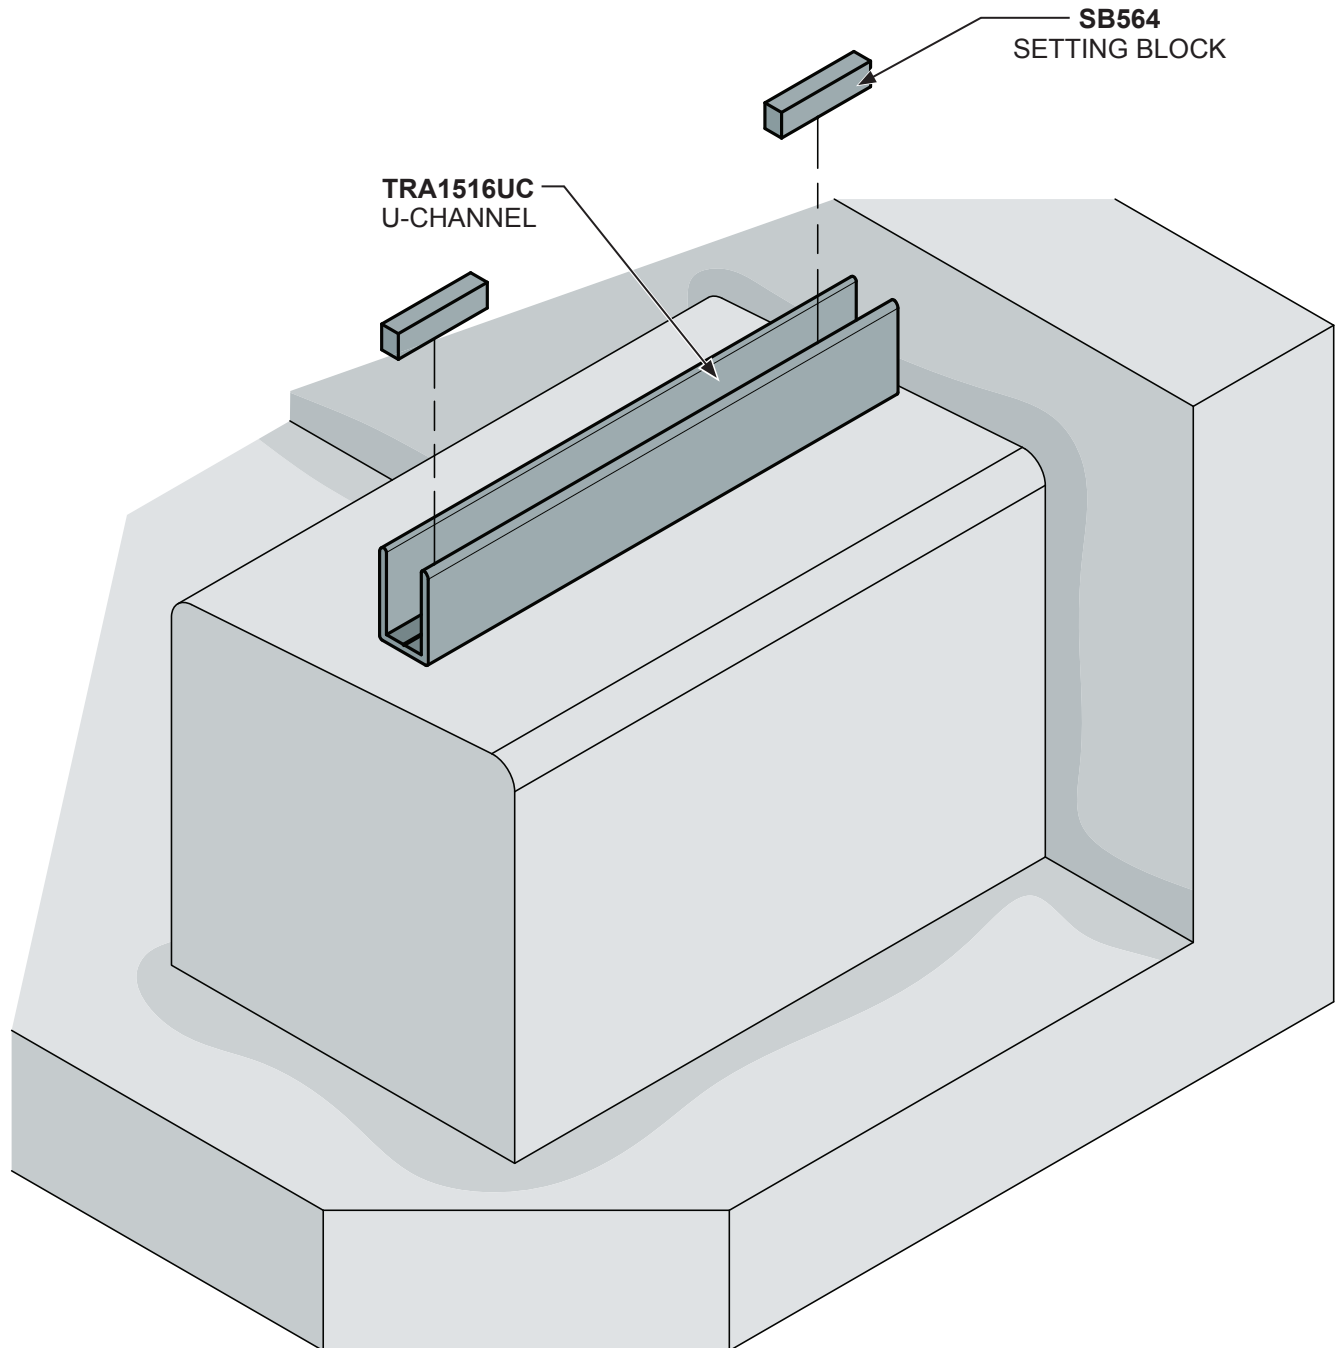

Figure 9
1. Insert the **SB564** Setting Blocks (not included). (Figure 9)